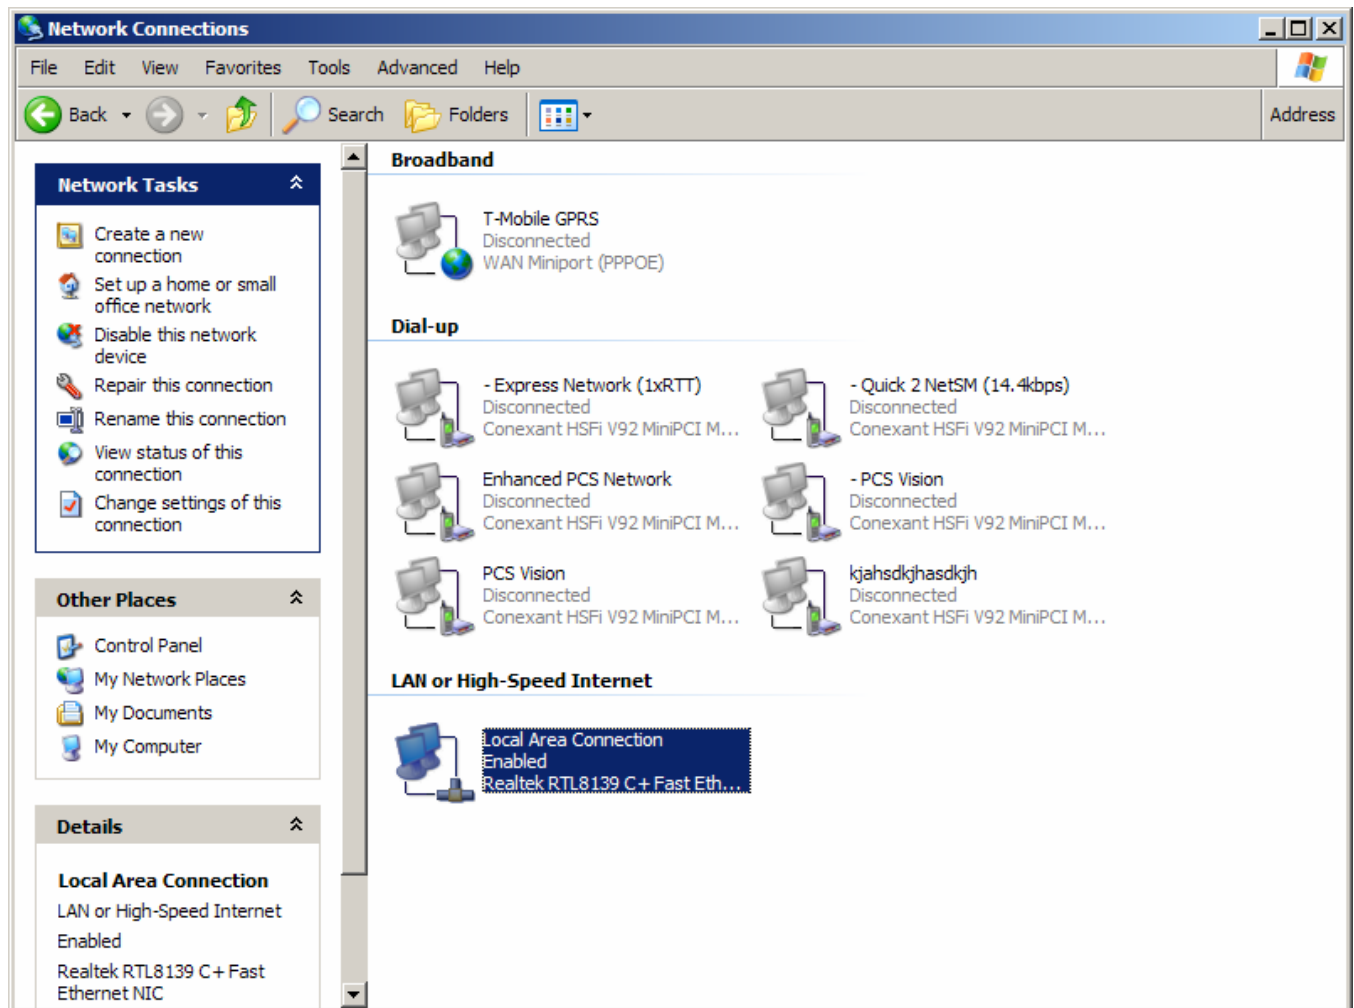

Figure 3
4. In the "Network Connections" window find the Local Area Connection. Move the mouse over it, left click to highlight it. See Figure 3.